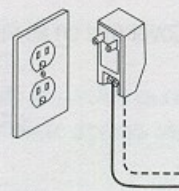

Figure 4-4
- **CONNECT** the STRIPED Wire to either terminal. (Figure 4-4)
- **CONNECT** the WHITE Wire to the other terminal. (Figure 4-4)
- **PLUG IN** the Intellicode transformer. (Figure 4-4)